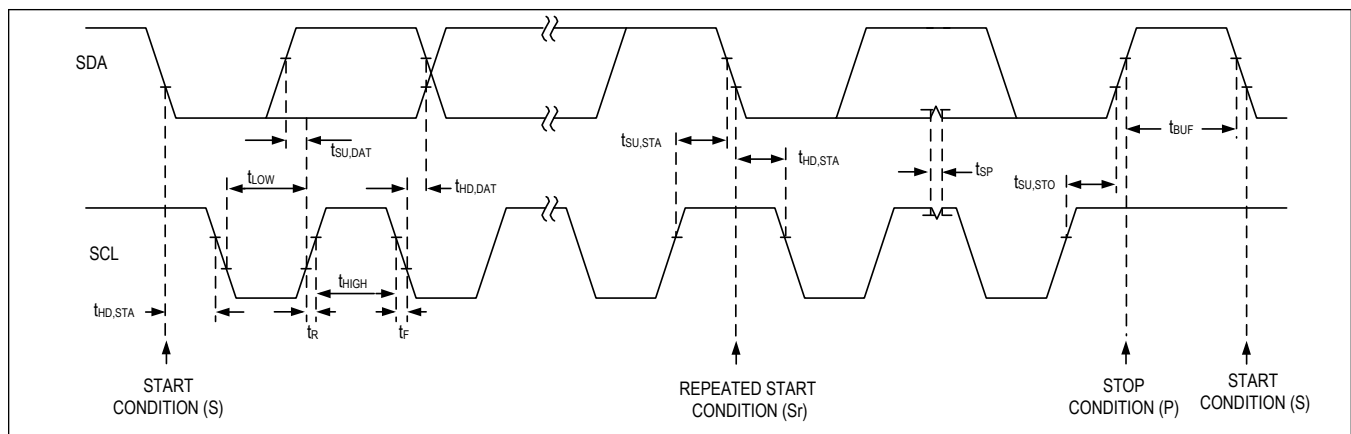

Figure 5. I²C Serial-Interface Timing Diagram
SDA and SCL idle high when the bus is not in use. A controller initiates communication by issuing a START condition. A START condition is a high-to-low transition on SDA with SCL high. A STOP condition is a low-to-high transition on SDA while SCL is high. A START condition from the controller signals the beginning of a transmission to the device. The controller terminates transmission, and frees the bus, by issuing a STOP condition. The bus remains active if a Repeated START condition is generated instead of a STOP condition; this is often used in combined-format read operations. See Figure 5 for examples that show the generation and proper use of START (S), STOP (P), and Repeated START (Sr) conditions.
A command byte follows the target address. A command byte is typically followed by one or two data bytes unless it is the last byte in the transmission, as would be the case for readback operations (see Figure 5). If data bytes follow the command byte, the command byte indicates the address of the register that should receive the data bytes that follow. The data bytes are stored in a temporary register and then transferred to the appropriate register during the ACK periods between bytes.